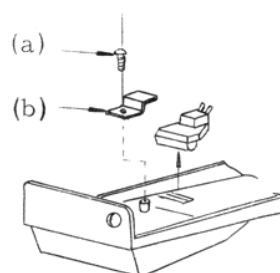

Fig. 11-2
- (1) remove the screw (a) on the battery meter clamp,
- (2) take off battery meter clamp (b) and pull out battery meter as shown in Fig. 11-2.